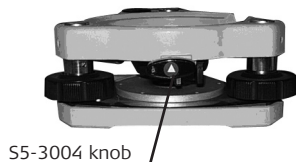

Fig. 6-5
2. Turn knob S5-3004 180° counter-clockwise, holding the base with one hand and take the main body of the instrument off the base (as shown in Fig.6-5).